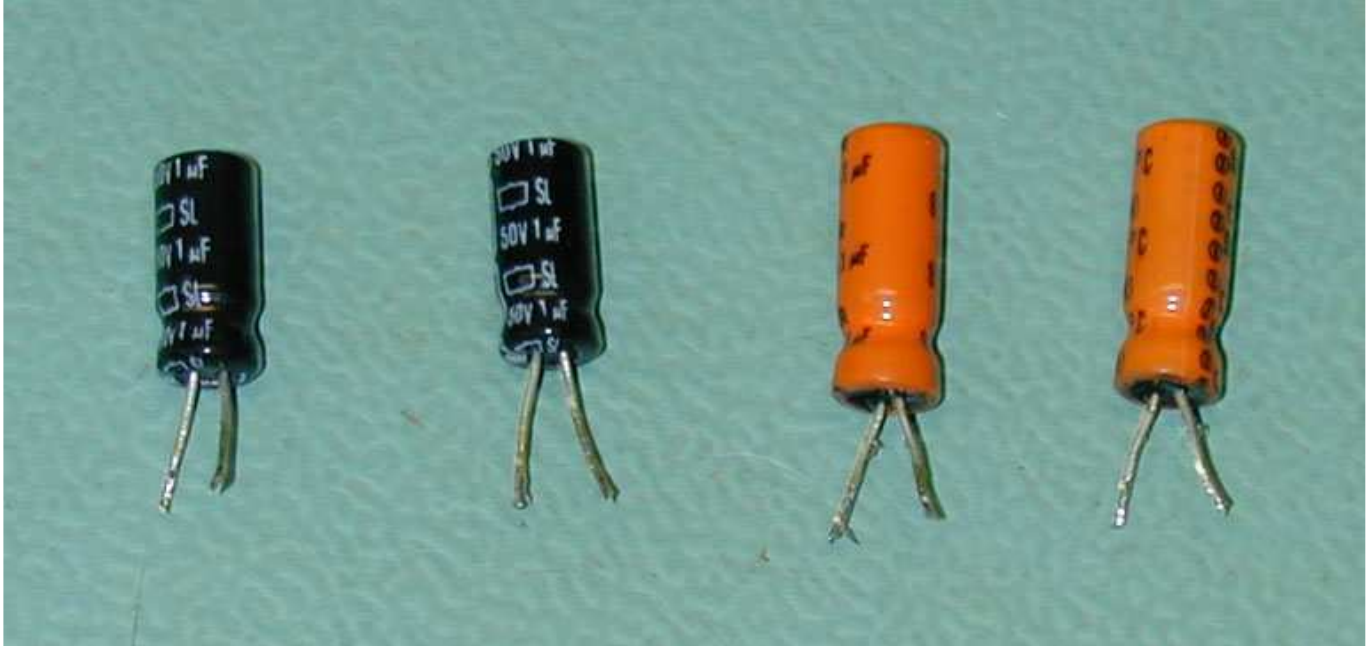

Figure 7, Existing capacitors C316, C317, C320, C321
1. First step is to locate and remove the 4 electrolytic coupling capacitors from the existing circuit on the tuner main board to ready it for wiring in the new amplifier circuit on the TM-1001 Power Supply and Amplifier Board. These are C316, C317, C320 and C321 and are pictured in Figure 7.